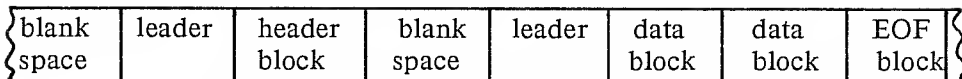
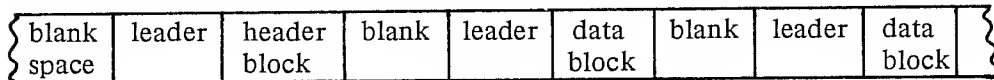

Fig. 8-8 A BASIC Cassette Tape File.
Fig. 8-12 A Tape File with Gaps.
information in that file. A typical tape file is shown in Fig. 8-8.
- 14 - Gaps between data blocks indicator. 00=no gaps (as in Fig. 8-8). FF=yes gaps (as in Fig. 8-12).
a program that generates data to be recorded at a slow rate. After stopping the tape and accumulating a full data buffer, the next block is written by writing a leader and then the data block. This is done because the cassette read logic goes out of sync when the tape stops. A file created by this process contains gaps between the data blocks as seen in Fig. 8-12.